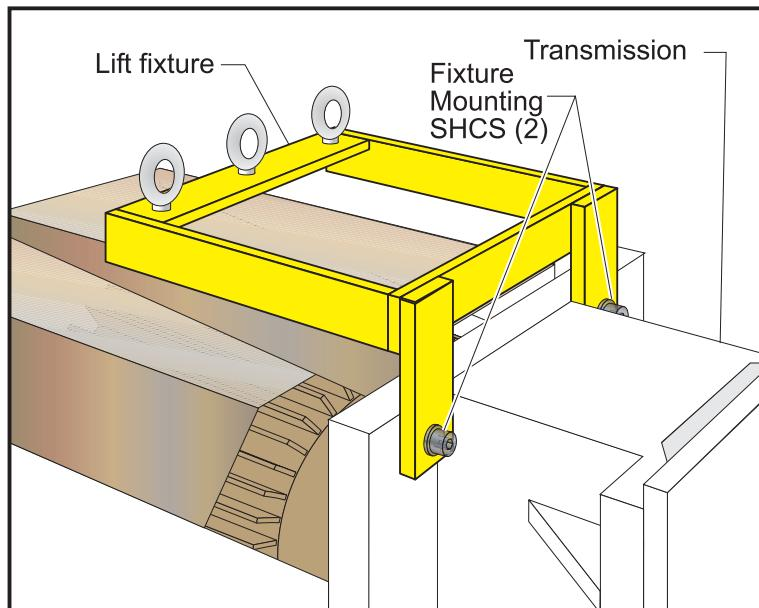

Figure 3.7-1. Transmission lift fixture.
14. Place the lift fixture onto the transmission (Figure 3.7-1). Attach to the motor mounting plate with two SHCS (1/2-13 x 1-1/4).